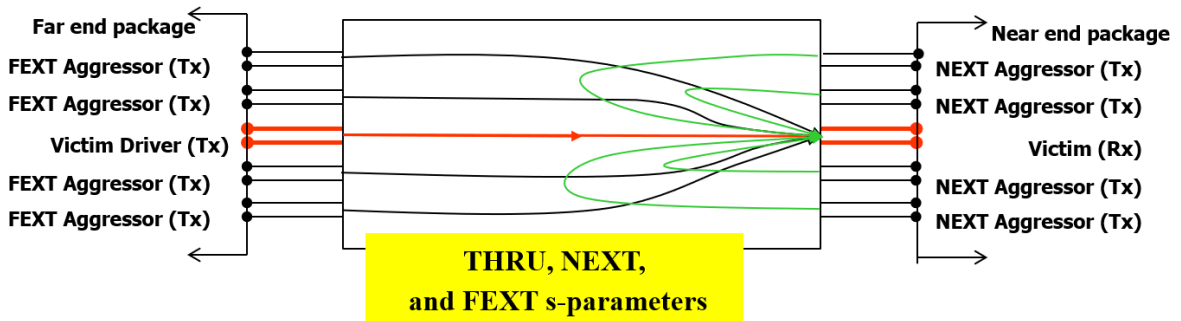

Figure 24 Channel Model for COM
The victim channel, referred to as THRU, is affected by both near-end aggressor crosstalk (NEXT) and far-end aggressor crosstalk (FEXT). See Figure 24. For calibration and testing, the impact of NEXT and FEXT referred to as integrated crosstalk noise (ICN) is emulated using broadband noise, either injected at the transmitter (CR) or in front of the receiver test fixture (KR).